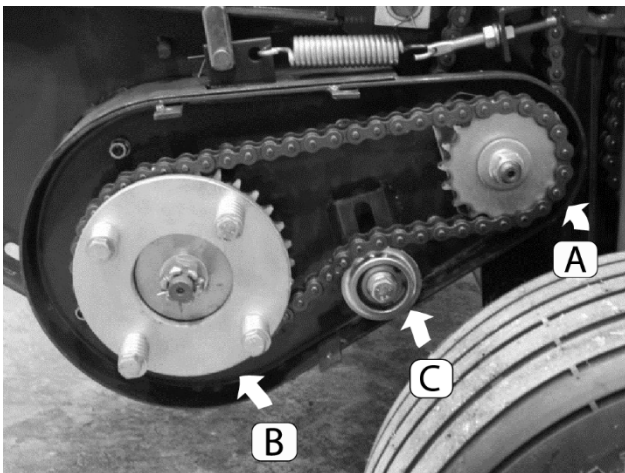

Figure 5 Left side of baler (pickup chain & clutch)
The pickup drive chain (Figure 5, A) transfers power to turn the pickup. The friction clutch (B) slips only in overload conditions to prevent damage to the pickup mechanism. Chain tension is controlled by the idler (C).